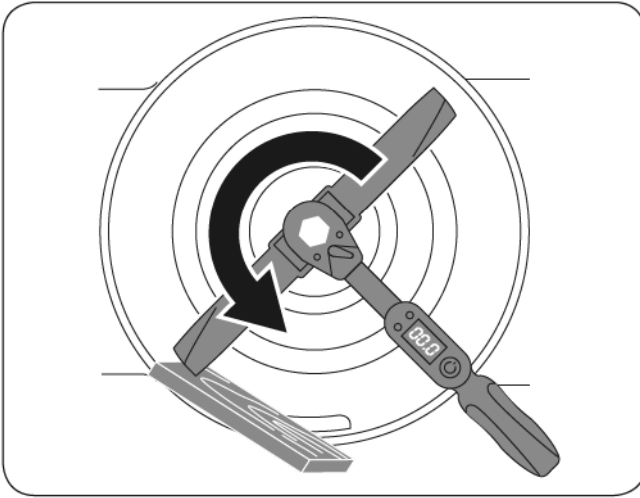

Figure 14
3. Tip the machine onto its side with the air filter and carburetor facing up. Use a block of wood to hold the blade steady. (See **Figure 14**)